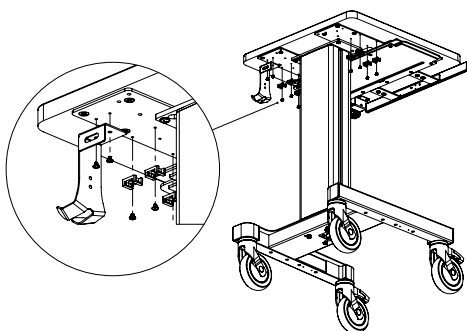

Figure 9
1. **POWER CORD HOOK/POWER CORD + BARCODE SCANNER HOOK:** Install the hook (**Box B**) to the **WORKTOP** bottom plate with 2x **8 - 32 x 3/16" LONG SCREWS (HARDWARE KIT** taped to hook). (Figure 9)